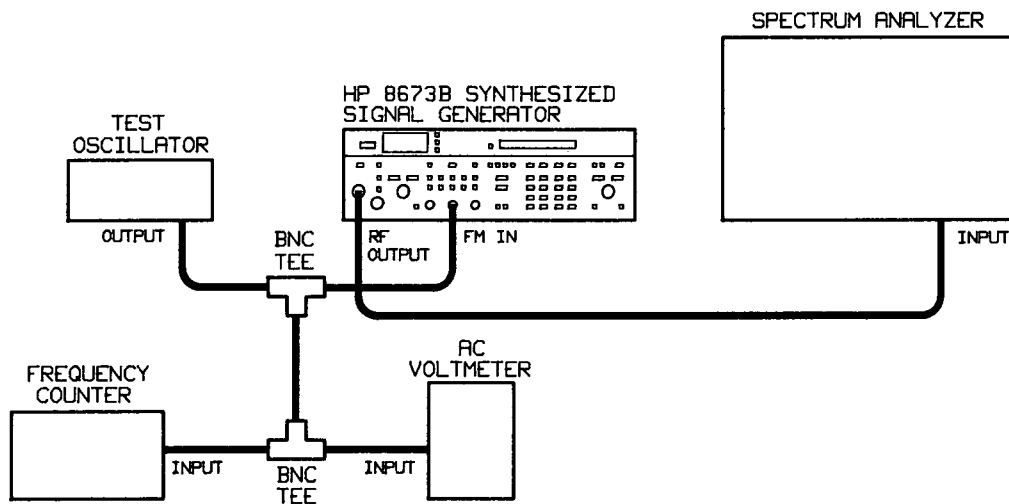

Figure 4-35. FM Frequency Response Test Setup
1. Connect the equipment as shown in Figure 4-35.